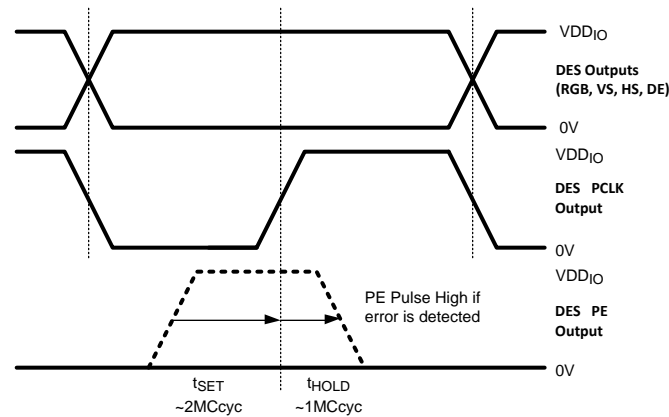

Figure 10. PE Output Timing
Parity Status is output as a pulse on the Parity Error (PE) output pin (DES) whenever there is a parity error. These pulses could be counted or used by various diagnostic equipment. PE is a high going pulse that is 3 MC cycles long for each frame containing an error. The PCLK output can be used to sample the PE bit. SET time is nominally 2 MC cycles and a HOLD time of 1 MC cycle. The serial PE bit is Odd Parity and is based on the RGB, and Control (VS, HS, DE) bits only. See Figure 10.